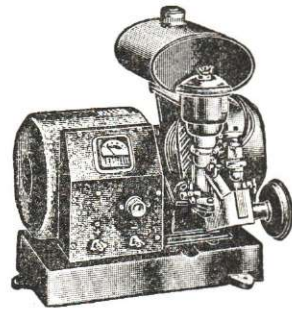

FIG. 31. A gasoline engine-driven generator of the type used in radio and public address work.
► A typical gasoline-engine-driven a.c. generator is shown in Fig. 31. This type is used by servicemen in mobile public address installations, which usually require fairly large amounts of power. The unit is entirely self-contained and is furnished with a gasoline storage tank. Various sizes can be obtained, but a 300-watt unit is quite common and satisfies most needs. A 6-volt battery (usually a storage battery) is the only auxiliary equipment. It is needed to excite the electromagnets of the generator and to operate the ignition system of the gasoline engine. In an automobile installation, the car battery may be used. The output of the generator has a simple spark filter